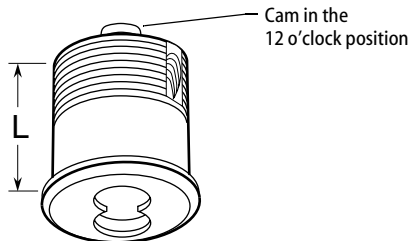

Figure 3 Turning the cam to the 12 o'clock position
- 2 Note the length "L" of the old cylinder. See Figure 3. If the BEST cylinder is longer, select a cylinder ring that will provide the correct length.
- 3 Turn the cam to the 12 o'clock position as shown in Figure 3.